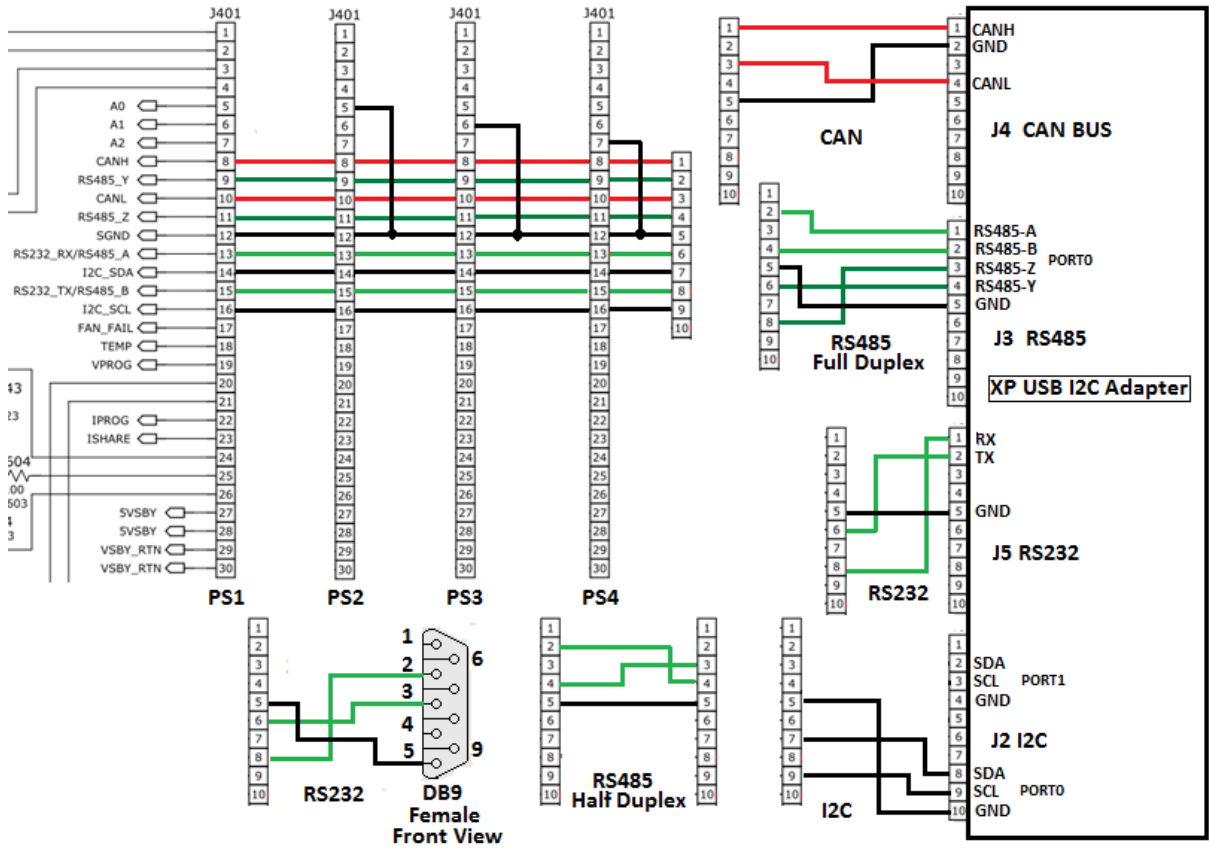

Figure 2: XP USB I²C multi-unit/multi-protocol cables diagram.
1. Connect HPx to XP USB I²C adapter with desire interface cable (see Figure 2 below).